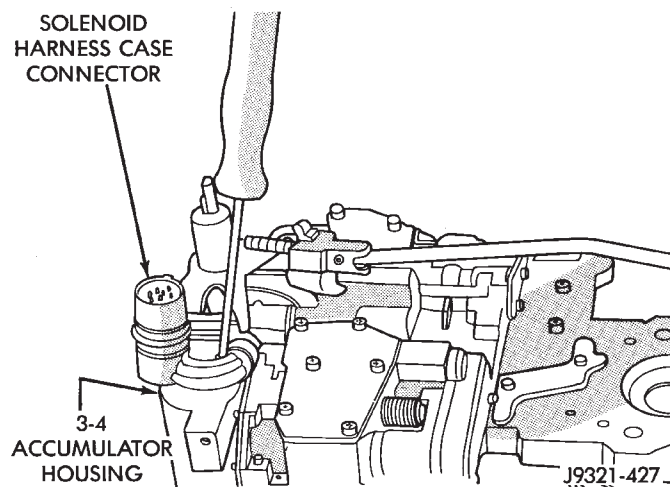

Fig. 95 Removing/Installing Solenoid Harness Case Connector Shoulder Bolt
- (7) Remove small shoulder bolt that secures solenoid harness case connector to 3-4 accumulator housing (Fig. 95). **Retain shoulder bolt. Either tape it**